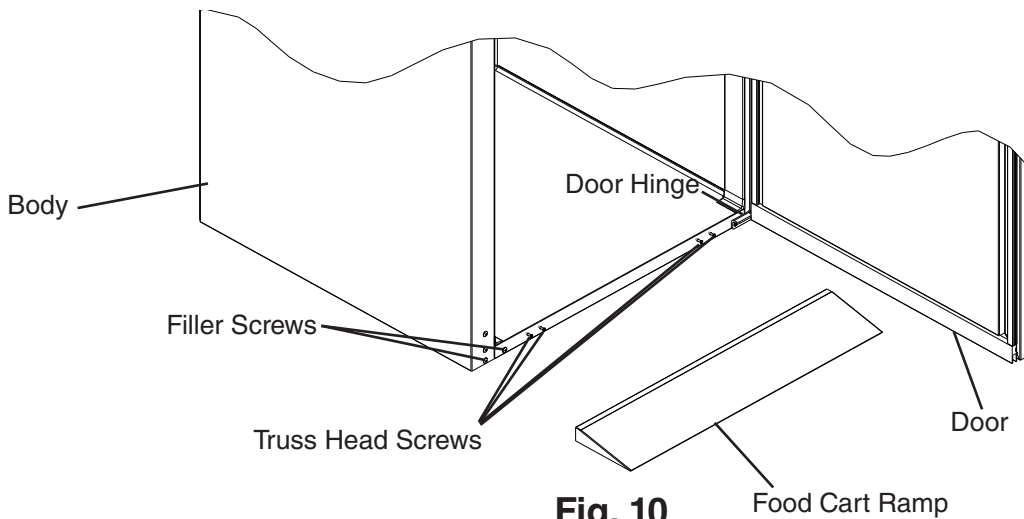

Fig. 10
- 2) Remove the 2 filler screws from the bottom of the appliance. See Fig. 10. Next, loosen the 4 truss head screws at the bottom of the appliance 3 to 4 mm (1/8"), then lay the ramp onto the loosened truss head screws. See Fig. 10.